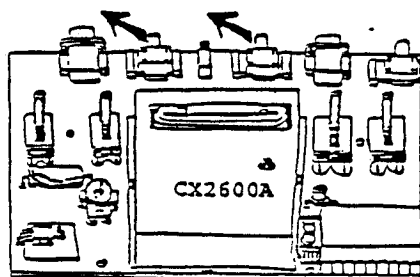

Figure 3-6. Switch Initialization Positions
- Format: Connect VCS unit to television and battery eliminator. Set television to proper channel (channel 3). Plug in the 2.6 diagnostic cartridge. Set all 2600 switches to the up position. On the 2600A, set all front panel switches up and rear panel switches to the left (See Figure 3-6).